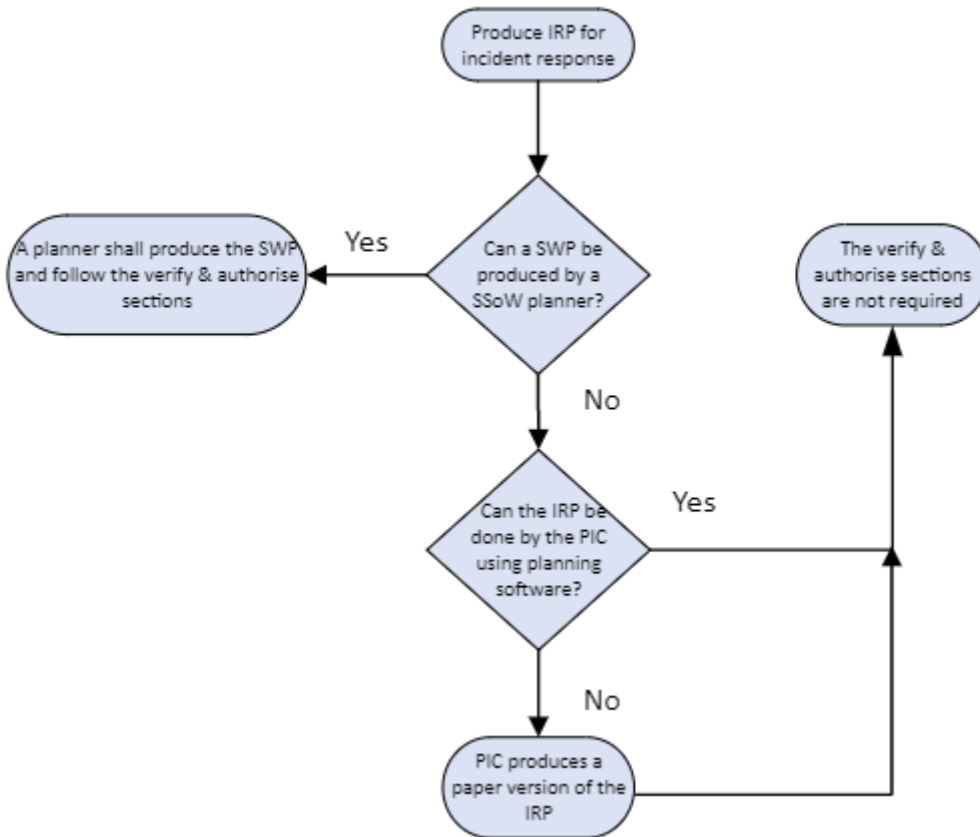

Figure 2 – Production of the Incident Response pack
- 3.3 The IRP does not need reviewing and authorising when produced by the person in charge as per Figure 2.